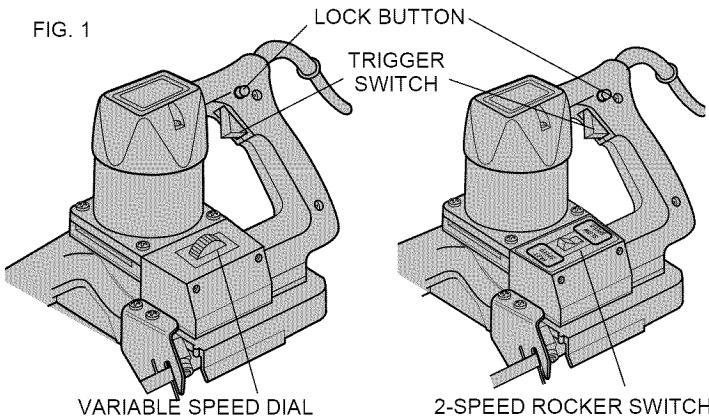

FIG. 2
2. Rotate the blade tensioning lever clockwise until it stops, as shown in Figure 2, to release tension in blade.